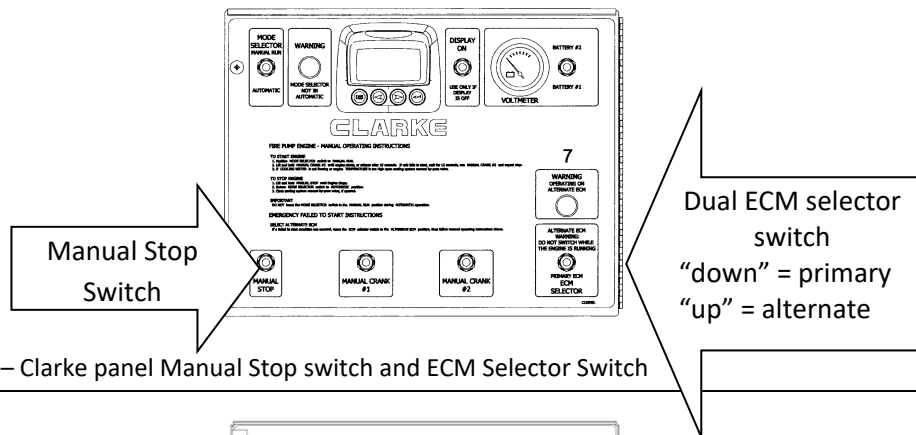

Figure 2 – Clarke panel Manual Stop switch and ECM Selector Switch
- Select the PRIMARY ECM by holding the ECM SELECTOR SWITCH in the “down” (PRIMARY) position for 2 seconds. (see Figure 2)
- Note, on PLD engines with variable speed pressure control the engine **may be** running at a speed less than 30 RPM’s below the rated speed. Therefore to operate the overspeed verify the PLD must be disabled by unplugging PLD wiring from the instrument panel (connector is located on the right hand side towards the top of the panel, see Figure 2). This will allow engine rpm to reach rated speed.
- Lift and hold the MANUAL STOP SWITCH located on the outside Clarke panel door to prevent the engine from starting during the cycle-crank testing (see Figure 2). **NEVER** shut off the fuel supply to the engine to prevent it from starting. Shutting off the fuel supply will cause an air lock condition in the fuel system and possibly cause fuel system component damage. Ensure that the MANUAL STOP SWITCH is held for the entire 15 second duration of each of the 6 crank attempts. Each time while the engine is resting for 15 seconds in between crank attempts, release the MANUAL STOP SWITCH for 3 seconds. Before the engine cranks again, activate the MANUAL STOP SWITCH and continue holding throughout the crank attempt, releasing in between each time.
- Repeat all of the above alarm verification tests on ALTERNATE ECM by setting the ECM selector switch to ALTERNATE (see Figure 2). Only switch to ALTERNATE ECM with the engine stopped and with the MANUAL STOP SWITCH held in the UP position. Release MANUAL STOP SWITCH after switching ECMs.
- After alarm verifications have been completed on both ECMs, place engine back on PRIMARY ECM by setting the ECM selector switch to PRIMARY (see Figure 2) and set controller back to AUTOMATIC (standby) position per fire pump controller operator's manual.